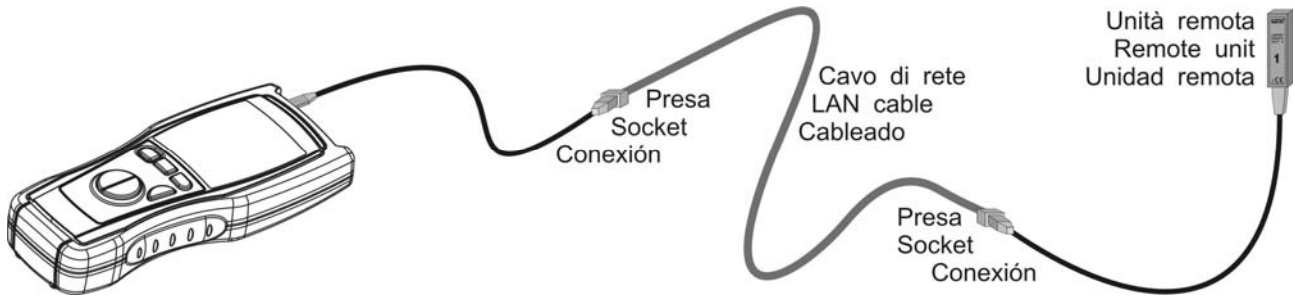

Fig. 7: Connections of the instrument's terminals during LAN tests
4. Connect the cable under test to MULTITEST 75 and to the remote unit if necessary through patch cables (see Fig. 7)